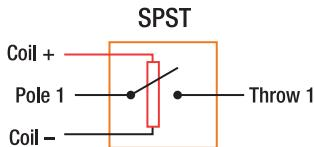

Figure 2-2. This SPST relay has one pole, with one contact (a simple switch).
- Single Pole, Single Throw (SPST): This type of relay uses one coil to control one switch with two contacts—there are four total contacts on this relay (see Figure 2-2).